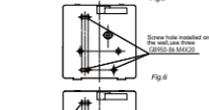

Fig. 6
2. Use three GSD03-06/SAK20-08 screws to directly install the back cover on the wall (Fig. 6).